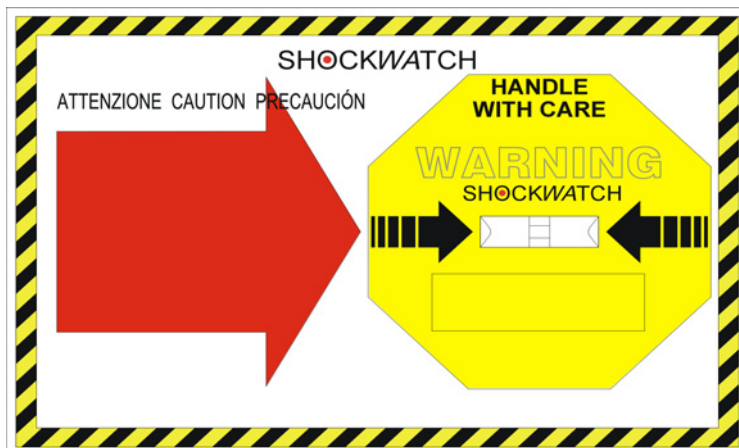

Fig. 5.6-2 ShockWatch device
- 2 bolts to support the UPS cabinet (see Fig. 5.6-2).